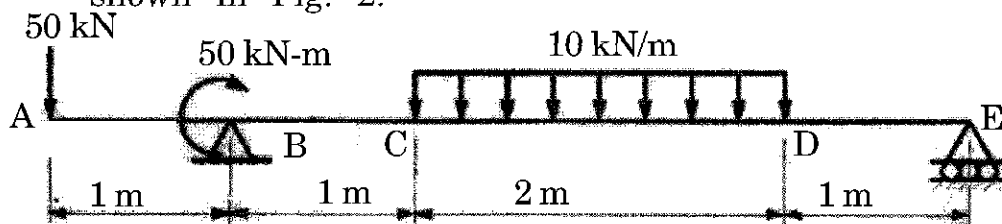

Fig. 2
4. (a) Draw shear force and bending moment diagrams for the beam shown in Fig. 2. [8]